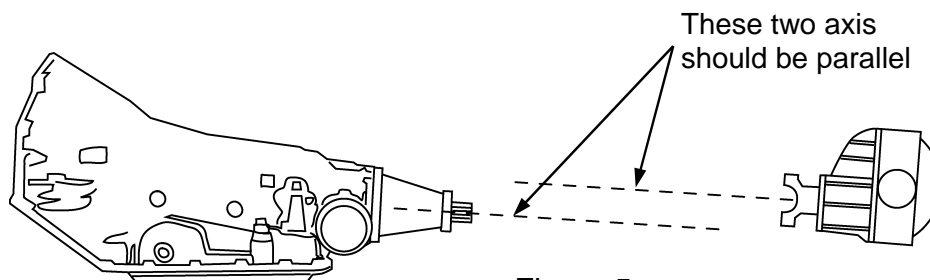

Figure 5
4. The pinion angle can be fine adjusted using the Lower Link Bars, see Figure 5. Install the optional upper coil-over shock mounts per their instructions, and install coil-overs onto the mounts and axle housing brackets using a coil-over hardware installation kit.